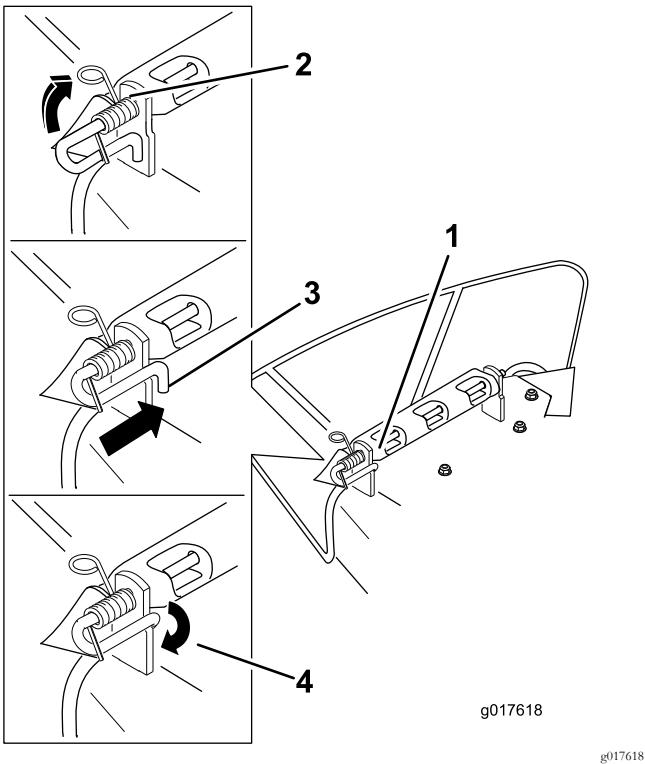

Figure 61
- Position the new discharge deflector with the bracket ends between the welded brackets on the deck as shown in Figure 61.
6. Lift the loop end of the spring and place it into the notch on the deflector bracket (Figure 61).
7. Secure the rod and spring assembly by twisting it so the short end of the rod is placed behind the front bracket welded to the deck (Figure 61).